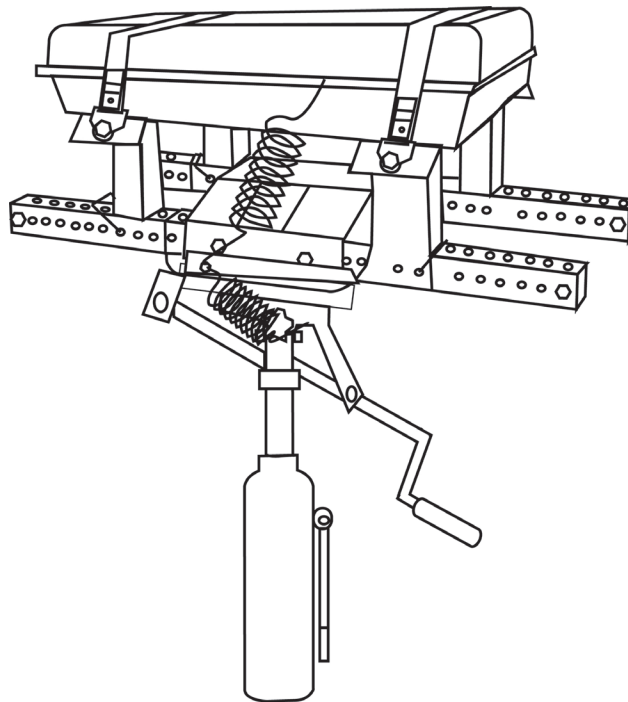

Figure 6
Removal of Fuel Tank (Refer to Figure 6)
8. Place the safety nylon straps around the fuel tank, and hook them to the holes on the on support pads (refer to Figure 6 and Figure 5 *side view*).